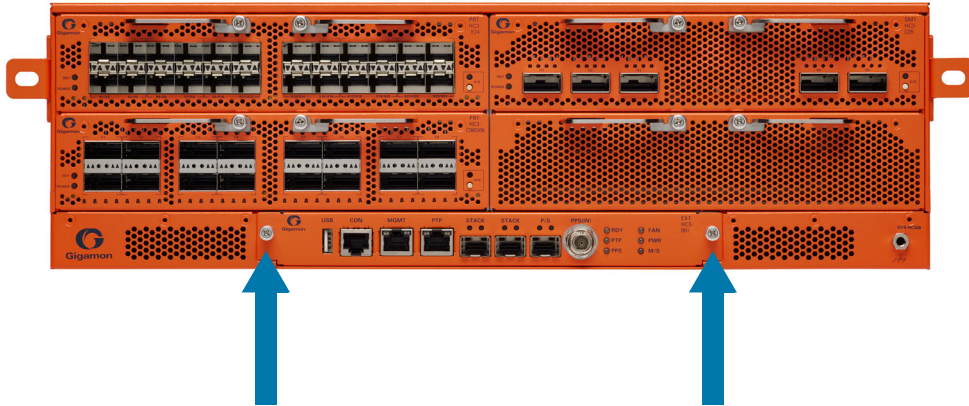

Figure 4-15: Extension Board Screw Location on GigaVUE-HC3 Front
2. Locate the two thumb screws on the extension board as shown in Figure 4-15 on page 82.